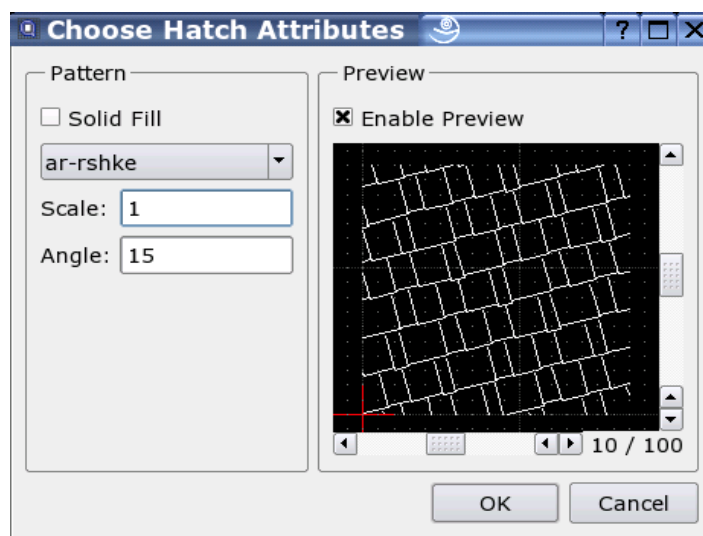

Figure 47: Hatch pattern selection.
5. A dialog for the hatch options is displayed (Figure 47). Choose a hatch pattern, scale factor and a rotation angle for the hatch pattern. If you want to fill the object with a solid color instead of a pattern, check the checkbox "Solid Fill".